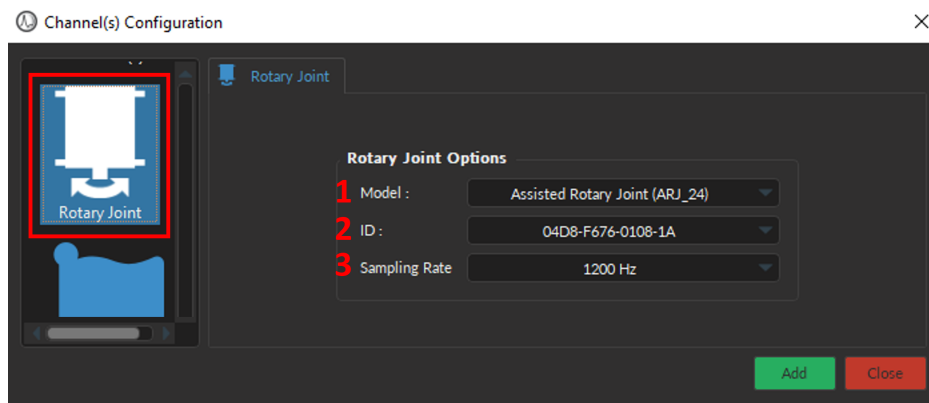

Figure 15.34: Rotary Joint channel
1. The **Model** (Fig. 15.34, 1) displays the type of rotary joint available. Assisted rotary joints (specifically ARJ24), when connected to the computer, will be automatically detected. Compatible devices include:
2. The **ID** (Fig. 15.34, 2) displays the serial number of the rotary joint in question, which identifies the proper device when more than one rotary joint of the same model is connected to the computer.
3. The **Sampling Rate** (Fig. 15.34, 3) specifies the number of data points per second that are saved in the .doric file. The **Sampling Rate** can range between 10 Hz - 1200 Hz.